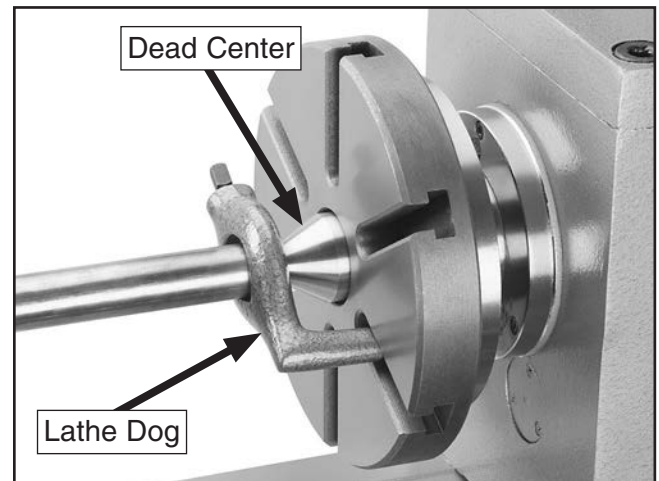

Figure 27. Example of using a dead center with a faceplate and lathe dog.
Install a lathe dog when using the MT#3 dead center in the spindle (see **Figure 27** for an example).
3. Install a lathe dog on the workpiece, then mount the workpiece between the spindle and tailstock centers with the lathe dog inserted into the chuck or faceplate (see **Figure 27** on the previous page for an example).